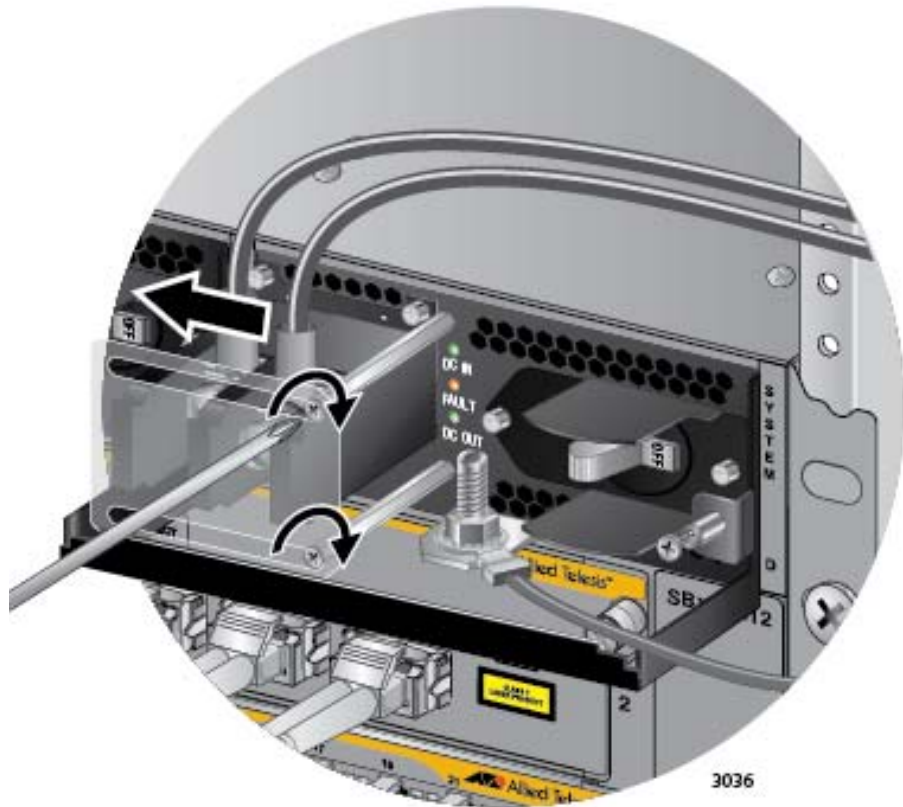

Figure 136. Closing the Plastic Cover over the Terminal Connectors
8. Slide the plastic cover to the left and lightly tighten the two screws with a #1 Phillips-head screwdriver to secure the cover. See Figure 136 on page 210. You might need to lift the locking handle slightly to access the bottom screw.
6. Slide the plastic cover to the left and lightly tighten the two screws with a #1 Phillips-head screwdriver to secure the cover. See Figure 136 on page 210. You might need to lift the locking handle slightly to access the bottom screw.